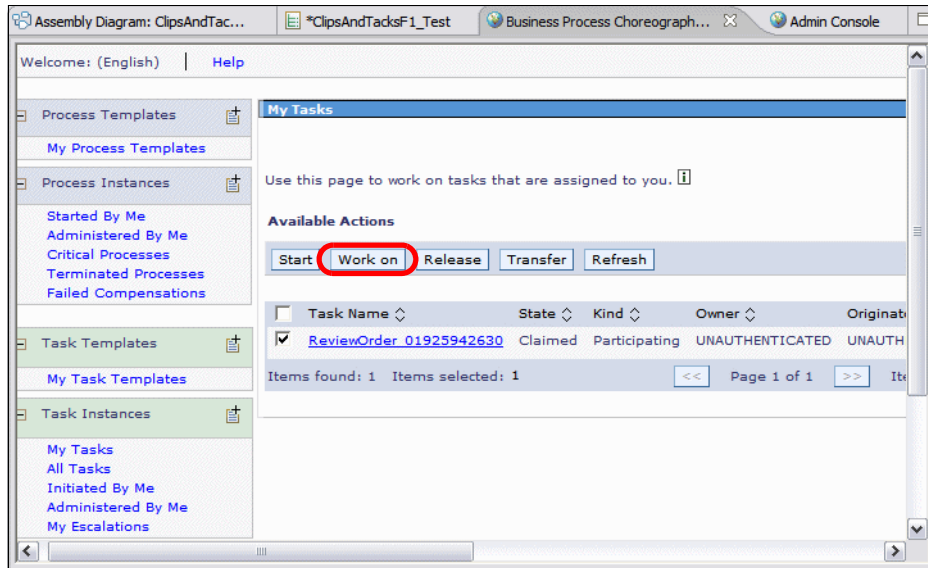

Figure 10-35 BPC Explorer: Tasks list
- ▶ The BPC Explorer opens with the My Tasks view and the Review Order activity is visible (Figure 10-35).